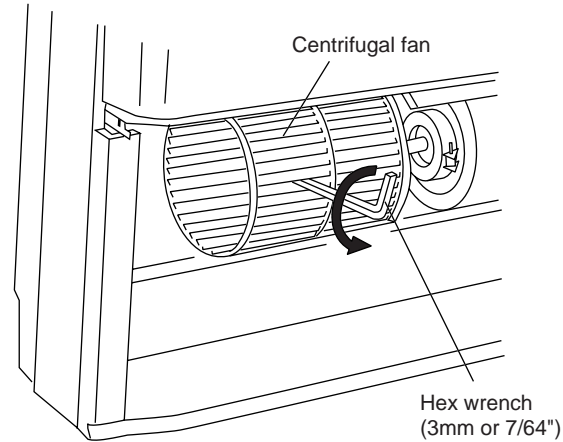

Fig.14
(3) Insert a hex wrench in the fan boss and turn it counterclockwise to loosen the centrifugal fan. The fan can be removed by sliding it to the left. (Fig. 14)